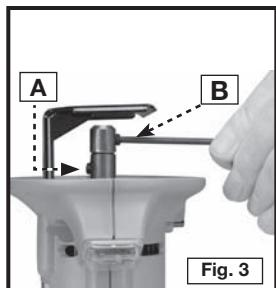

Fig. 3
Use the special chuck supplied with the 7499 to install bits with either .115" or 1/8" shanks. Insert the special chuck directly into the spindle shaft of the Cutout Tool and secure it with the screw (A) Fig. 3. Insert the bit shank into the special chuck and secure it with the screw (B) Fig. 3.
NOTE: To minimize vibration levels, insert the special chuck with set screw (B) Fig. 3, 180 degrees from the shaft setscrew (A).